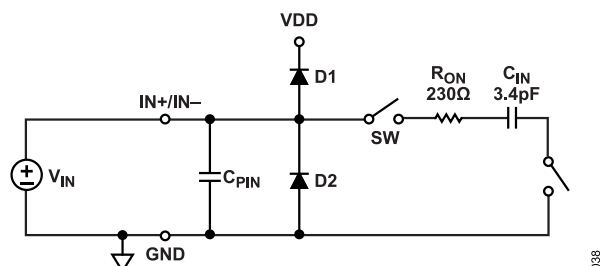

Figure 38. Equivalent Analog Input Circuit
Figure 38 shows an equivalent circuit for each of the AD4052 analog inputs (IN+ and IN-). The analog inputs are modeled as a switched capacitive load. During the acquisition phase, the sampling switch (SW) connects each input pin to the 3.4 pF sampling capacitor (C_{IN}), in series with the 230 Ω switch on resistance (R_{ON}). During the conversion phase, SW disconnects to sample the voltages on the IN+ and IN- pins onto the sampling capacitors. D1 and D2 represent the ESD diodes from the IN+ and IN- pins to the VDD supply and GND, respectively. C_{PIN} represents the pin capacitance of each input pin to GND and is typically 2 pF.